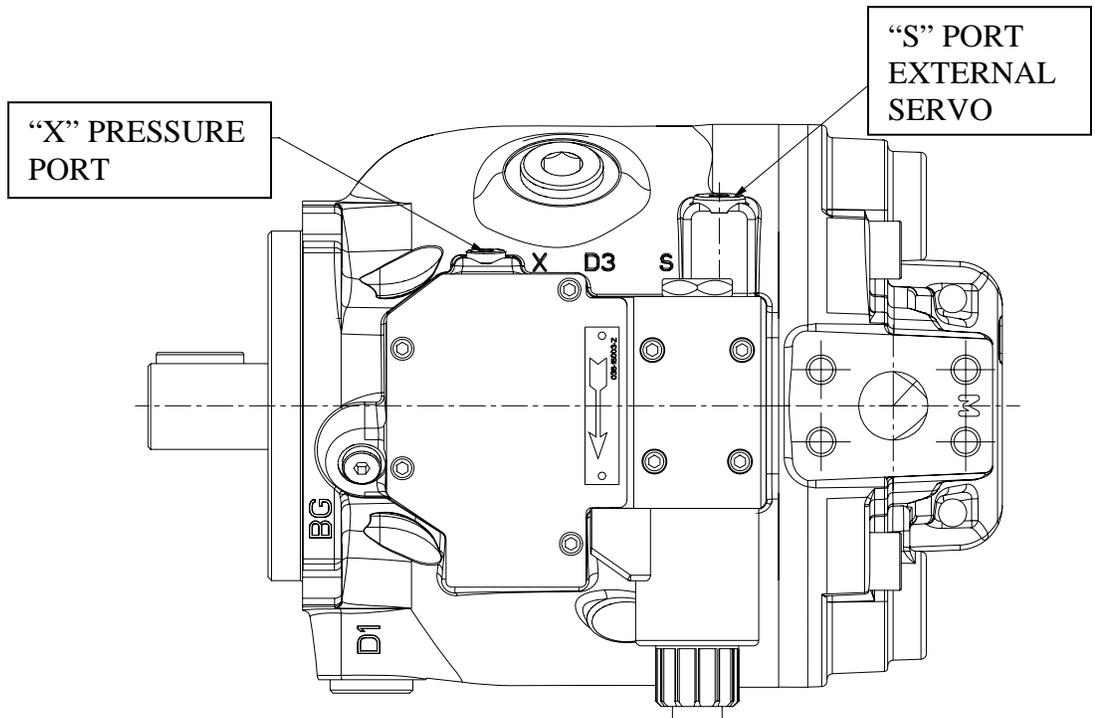

Figure 2: Drawing of P1/PD 75cc IDEC pump with electronic control showing location of "X" pressure port and "S" External Servo Port.
5. The X-port on the housing is ported to an extra pressure transducer that is available for use, see Figure 2. In load sense control mode this port can be used for the hydraulic load sense line.
6. The S-port on the housing is for the servo pressure, see Figure 2 for the location of the port. The servo pressure should be 25 to 35 Bar and the capacity 4 to 6 Lpm. Two check valves in the housing sends the higher pressure, of the servo or the pump outlet, to the control piston of the pump.